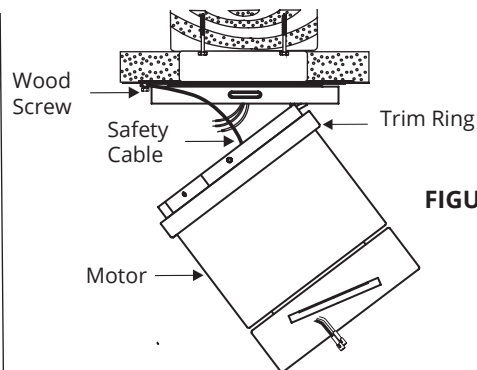

FIGURE 9
(Fig. 9 & 10)
1. Lift motor assembly and hang it on the hook of mounting bracket using one of the screw holes. (Fig. 9)
2. Secure the safety cable to the building structure using a wood screw (not included). (Fig. 9)